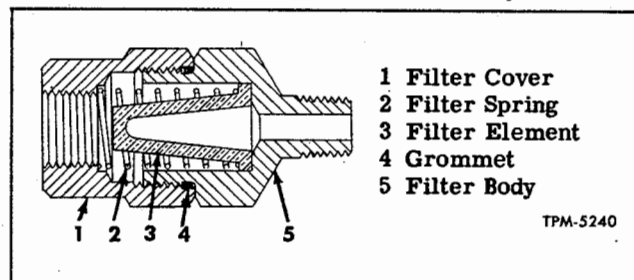
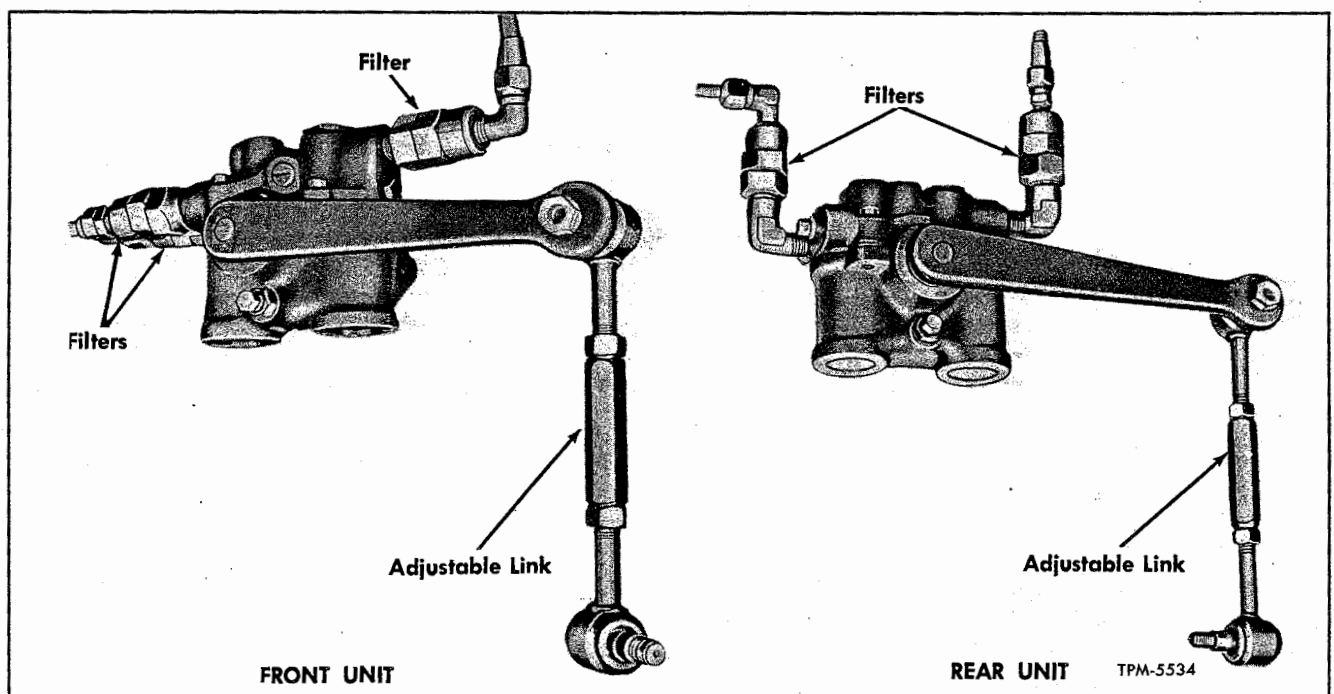

Figure 13—Air Filter
Figure 18—Height Control Valve
Air filters (fig. 13) are used at all height control valve outlet ports (two at front valve and one at each rear valve, (fig. 18). Purpose of filters is to prevent any foreign matter which may be present in the air beams from entering the control valves when air pressure is exhausted from the air suspension system. Air filter assembly (fig. 13) is used at inlet port of each height control valve (fig. 18). Filters prevent foreign matter in auxiliary air system from entering the control valves.
Air filter assemblies should be removed and serviced at regular intervals. Clogged air strainers will retard the flow of compressed air into and out of the air suspension system. Air filter element is a cone-shaped porous bronze part held in place by a spring (fig. 13).
3. Disconnect air lines from elbow or fitting at air filter cover. Unscrew air filter assembly from control valve body or from elbow in control valve, using end wrench on filter body (fig. 13). Remove fitting or elbow from filter cover.
DISASSEMBLY (Fig. 13)
ASSEMBLY (Fig. 13)
2. Assemble filter assemblies to height control valve body, referring to figure 18 for location and position of parts. Tighten connections firmly.
1. Using Permatex Aviation "Form-A-Gasket" number 3 on male threads, assemble air filter and check valve assembly to height control valve inlet port. Do not apply Permatex to first two threads. After tightening, elbow must point up as shown in figure 18. Assemble two air filter assemblies with connectors to control valve outlet ports (fig. 18), using Permatex mentioned above on male threads. Tighten firmly.
1. Using Permatex Aviation "Form-A-Gasket" number 3 on male threads, assemble air line elbows and connectors to air filter assembly as shown in figure 18. Do not apply Permatex to first two threads. Install these assemblies on height control valve, leaving parts positioned as shown in figure 18 when tightened.
2. Install control valve mounting bracket on control valve and attach with two cap screws and lock washers; flanged end of bracket must be at inlet end of valve with the flange pointing toward the valve as shown in figure 18. Tighten cap screws firmly.